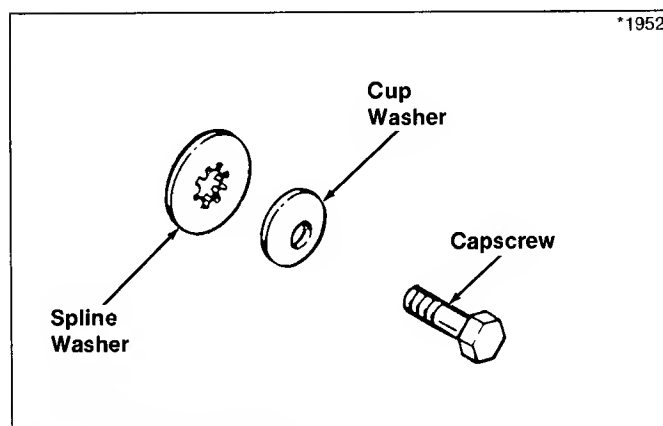

Figure 30. Blade Hardware
1. Reinstall the blade(s) with the tabs pointing upward. Install the spline washer, cup washer, and capscrew (see figure 30). Be sure the splines on the spline washer are engaged with the shaft splines. Be sure cup washer is installed with the concave side up.